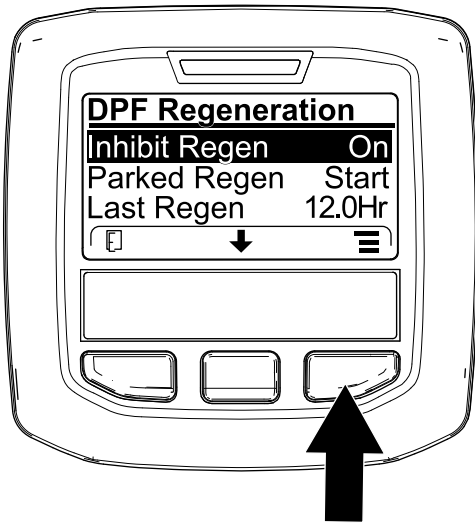
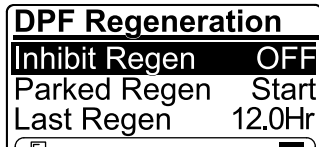

Figure 42
Figure 43
1. Access the DPF Regeneration menu, press the center button to scroll down to the INHIBIT REGEN option, and press the right button to select the Inhibit Regen entry (Figure 42).
- Press the right button to change the inhibit regeneration setting from On to Off (Figure 42) or from Off to On (Figure 43).